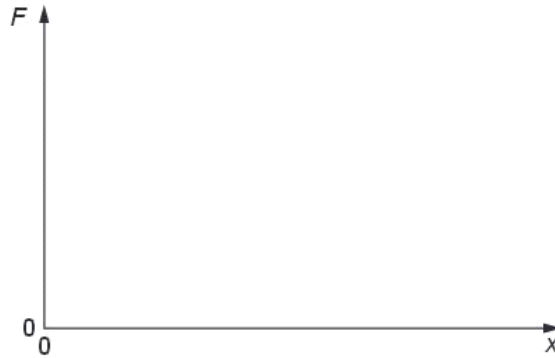

Fig. 3.2
- (ii) On Fig. 3.2, sketch the variation with x of F for a **brittle** material up to its breaking point.